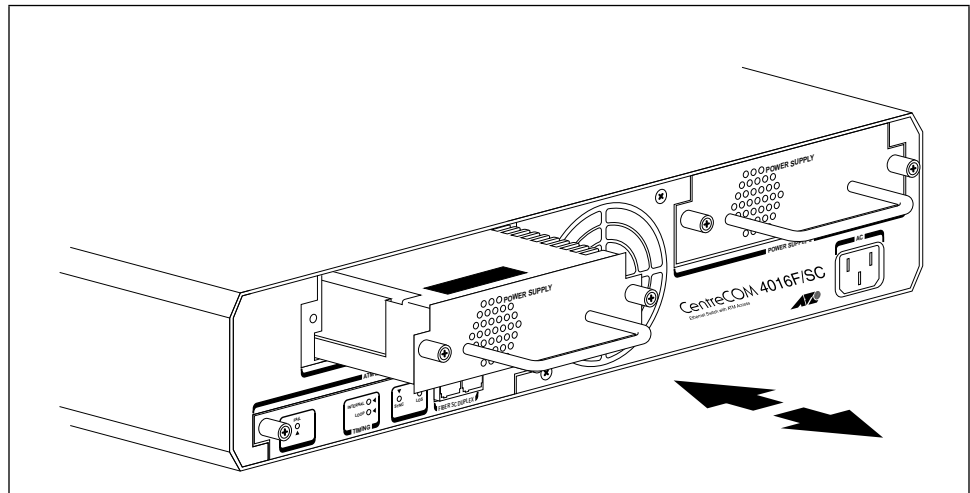

Figure 13: AT-4016F Power Supply Replacement
2. Leaving the AC power cord attached, loosen the two screws that secure the power supply you want to replace (see Figure 13).